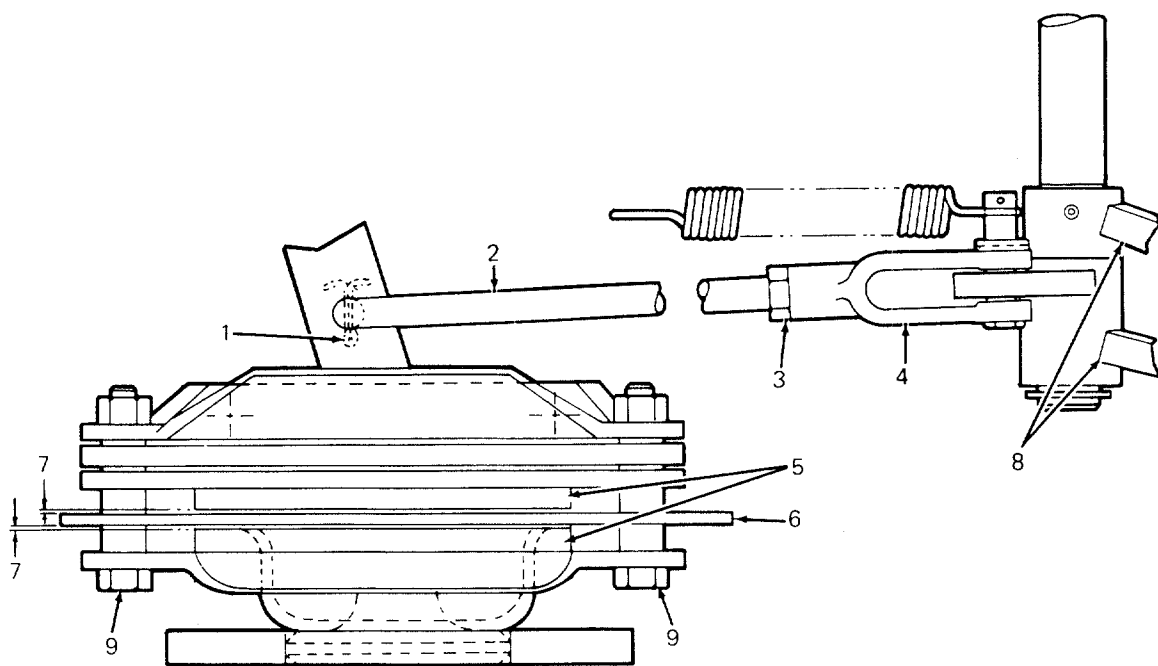

Figure 30. Right Side Shown
2. With the 1 inch thick wood block installed, the brake disc pads should be applying a light amount of friction against the brake disc rotor. If they are not, the brakes need adjustment (see Figure 30).
Brake adjustment: (See Figure 30)